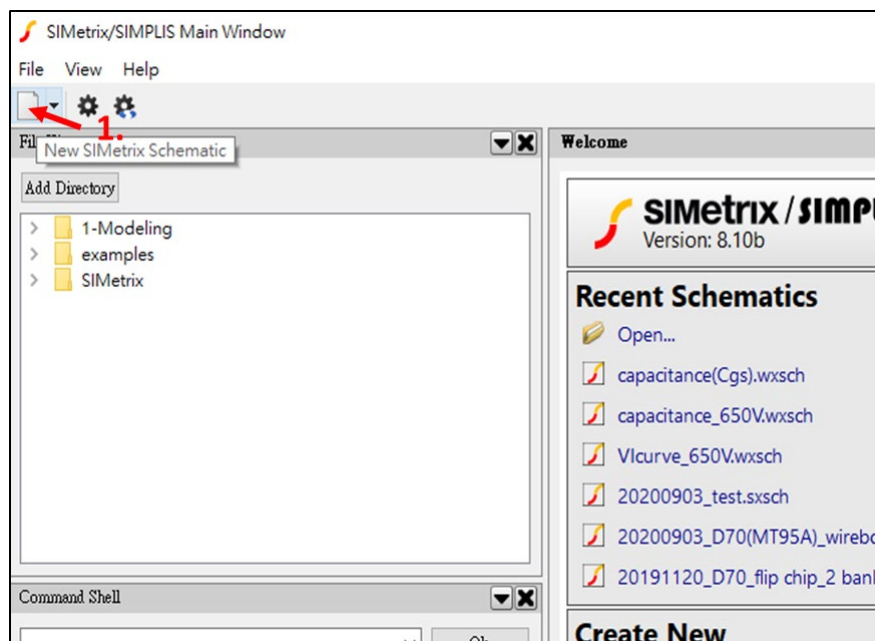

Figure 3
1. Open a new schematic sheet (as shown in Figure 3)